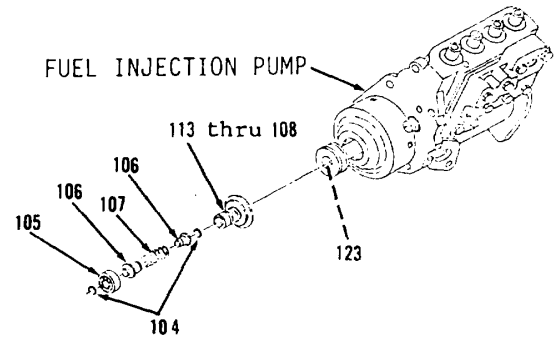
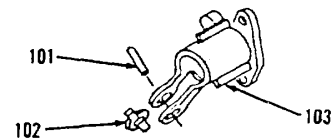

Figure 3-128.
Figure 3-127.
17. Install items 113 thru 108 as an assembly on shaft (123, Figure 3-128).
18. Install ring (104) in lower groove of shaft (123).
19. Install spring (107), two sleeves (106) and bearing (105) on shaft (123).
20. Using suitable spring compressor, compress spring (107).
21. Install ring (104) in upper groove of shaft (123).
22. Release spring (107) and remove spring compressor.
23. Install pin (101) on lever (102, Figure 3-127). Stake pin in four places 90 degrees apart on each side of fork of cylinder (103). Lever must turn freely after assembly.